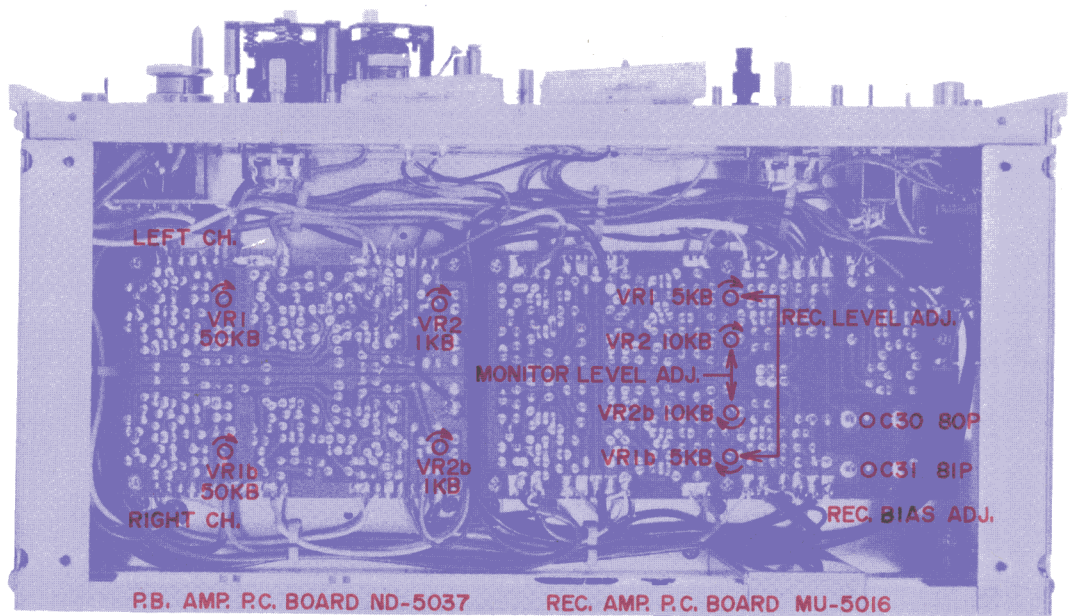

Fig. 19
- 4) Adjust Playback Amp. P.C. Board semi-fixed resistors VR1 50 k $\Omega$  (left ch.), and VR1b 50 k $\Omega$  (right ch.) shown in Fig. 19, to obtain a high sensitivity V.T.V.M. indication of 4 dB (1.228V) line output level on both channels.
After playback level adjustments has been completed, with the playback level of both channels at 4 dB, adjust P.B. Amp. P.C. Board semi-fixed resistors VR2 1 k $\Omega$  (left ch.) and VR2b 1 k $\Omega$  (right ch.) shown in Fig. 19 to obtain a left/right VU meter indication of 0 VU.
- 5) Adjust Recording Amp. P.C. Board semi-fixed resistors VR2 10 k $\Omega$  (left ch.) and VR2b 10 k $\Omega$  (right ch.) shown in Fig. 19 to obtain a high sensitivity V.T.V.M. indication of 4 dB (1.228V) line output level on both channels.
- 7) Adjust Recording Amp. P.C. Board semi-fixed resistors VR1 5 k $\Omega$  (left ch.) and VR1b 5 k $\Omega$  (right ch.) shown in Fig. 19 to obtain a high sensitivity V.T.V.M. indication of 4 dB (1.228V) line output level on both channels.
- 6) Adjust Recording Amp. P.C. Board Trimmer Condenser C30 80p max (left ch.) and C31 80p max (right ch.) shown in Fig. 19 until the same high sensitivity V.T.V.M. indication level is obtained on both the left and right channel at the two frequencies described in Items 5-4) and 5-5) above.